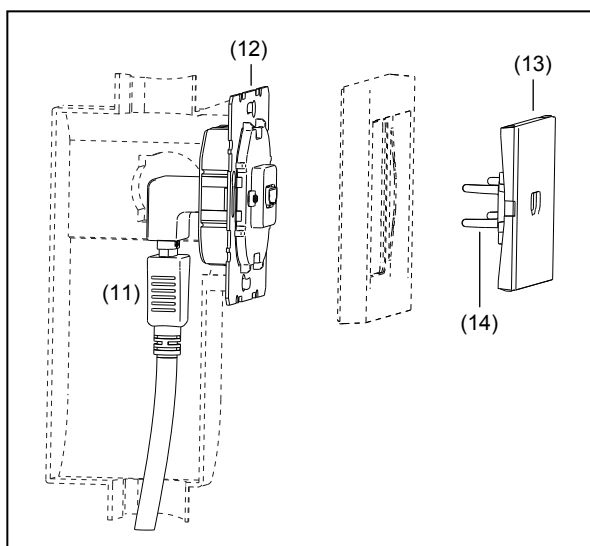

Figure 7
- Insert connector of the connecting cable into the corresponding jack on the rear of the multimedia socket (Figure 7, 11) **or**
- Screw insert (Figure 7, 12) to the wall box in the right orientation via the supporting ring.
- Place centre plate (Figure 7, 13) into the frame.
- Mount centre plate together with the frame on the insert using clamp springs (Figure 7, 14).